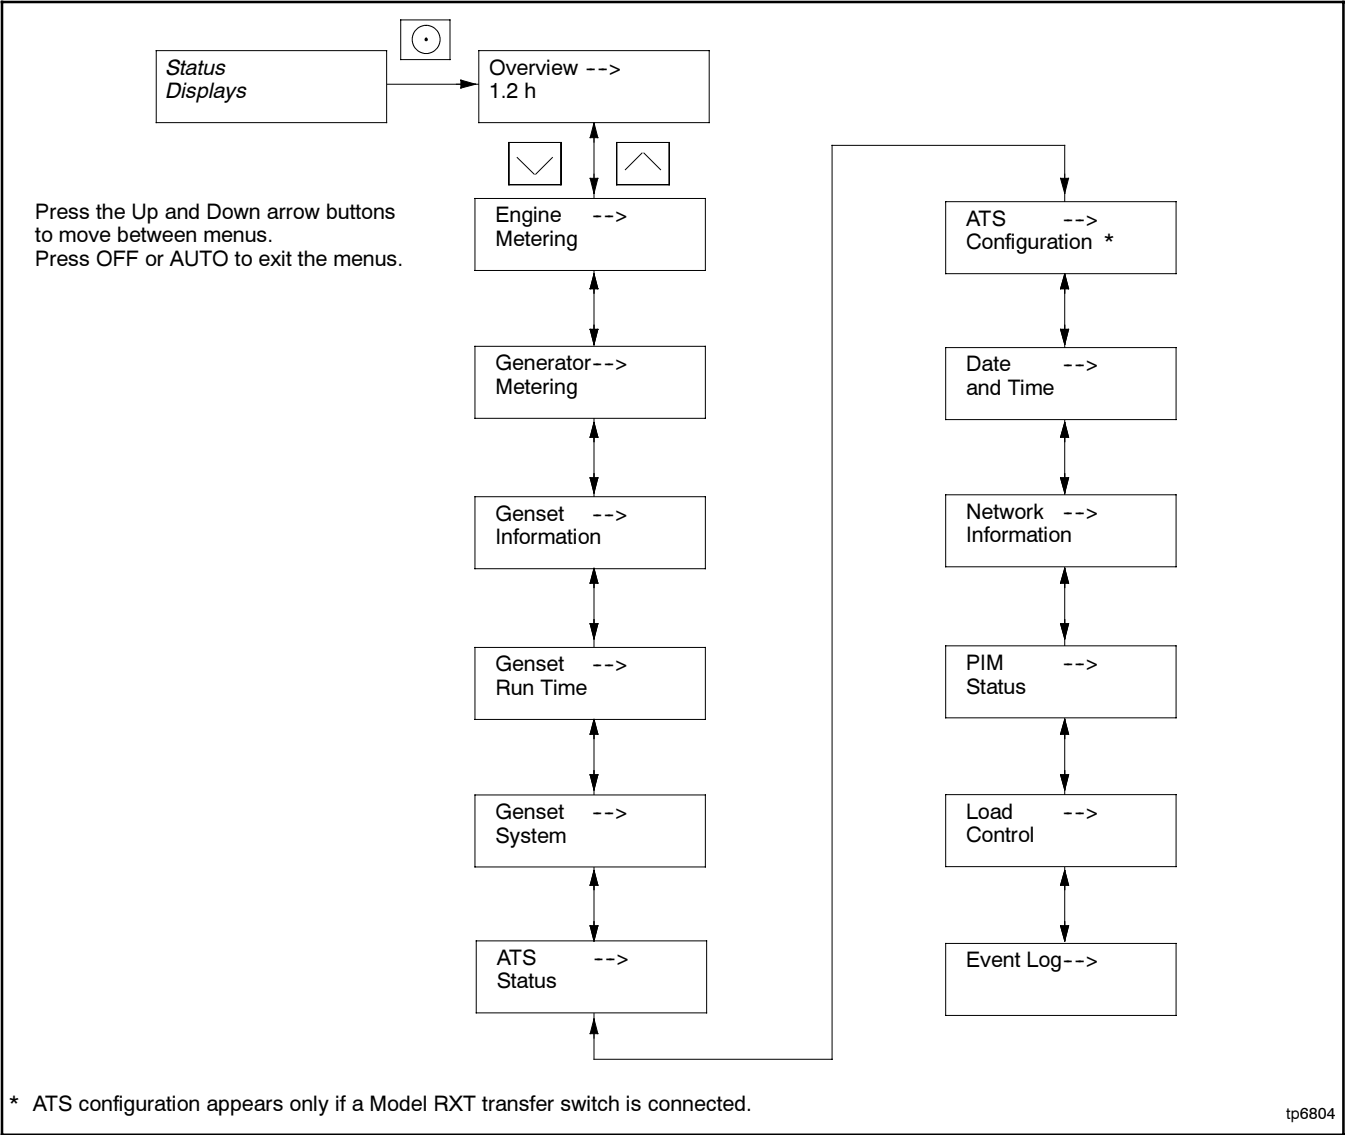

Figure 3-9 RDC2 Main Menu
2. Press the down arrow button until the desired menu is displayed. See Figure 3-9. Date and Time are used for this example.
2. Press the Select button to go to the main menu. See Figure 3-9.
Press the Select button once to bring up the main menu. Overview is displayed. See Figure 3-9. Press the down arrow button to step to the next menu, Engine Metering. Use the UP and DOWN arrow buttons to step up and down through the menus shown in Figure 3-9.